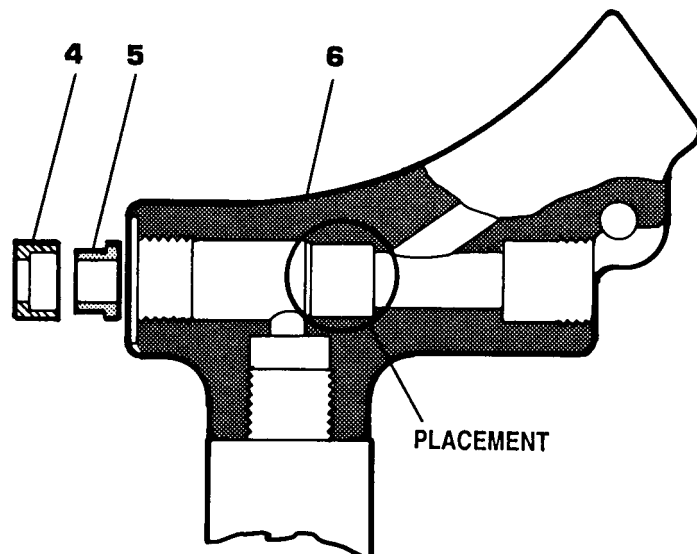

FIGURE 2
2. Slide the (25) washer over the (18) washer and tube assembly.
3. Slide the (22) retainer (threads down) over the (18) washer and tube assembly.
4. Slide the (16) trigger guard over the (18) washer and tube assembly.
5. Slide the (19) spring over the (18) washer and tube assembly.
6. Slide the (20) tube over the (18) washer and tube assembly.
7. Align (16) trigger guard with the (6) valve body.
8. Screw the (18) washer and tube assembly into the bottom of the (6) valve body.
9. Screw the (7) screw into the (6) valve body.
10. Screw the (24) body onto the (22) retainer.
11. Insert the (5) insert into the (4) valve seat.
12. Place the assembled (4) valve seat and (5) insert into the (6) valve body with valve seat behind the insert. (as shown in Figure 2).
13. Insert the (3) ball in the (6) valve body on the (4) valve seat.
14. Insert the (2) spring in the (6) body.
15. Place the (17) gasket over the threads of the (1) cap.
16. Screw the (1) cap into the (6) valve body.
17. Place the (14) washer in the (6) valve body's packing chamber directly under the 1/4" NPTF material outlet.
18. Thoroughly grease and insert the (13) [3] packing into the packing chamber of the (6) valve body.
19. Screw the (12) gland into the (6) valve body (do not tighten).
20. Insert the (11) stem, small end first, through the (12) gland, (13) [3] packing and then the (14) washer.
21. Tighten the (12) gland with the 21946T assembly tool.
22. Place the (15) handle over the (6) valve body so the holes in both parts are aligned.